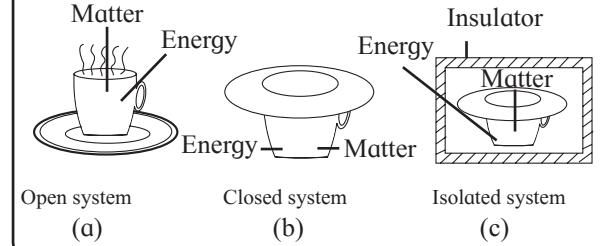

Fig. 4.2 : Kinds of systems
Observe Fig. 4.2 and discuss with reference to transaction of energy and matter.
Three types of systems are shown in Fig. 4.2.
i. **Open system :** Fig. 4.2(a) shows an open cup containing hot coffee placed in a room. You observe coffee cools down releasing heat to the surroundings. The water vapour from coffee simultaneously passes into
ii. Closed system : In Fig. 4.2(b), a cup containing hot coffee is covered with a saucer. Coffee cools down by giving away heat to the surroundings. The water vapour from coffee now does not pass into surroundings. Such a system that exchanges energy and not the matter with the surroundings is called a closed system.
iii. Isolated system : As you see in Fig. 4.2(c), a cup containing hot coffee covered with a saucer is insulated from the surroundings. Coffee does not cool down. Moreover, there is no escape of water vapour into the surroundings. Such a system that does not allow exchange of either energy or matter with the surroundings is an isolated system.